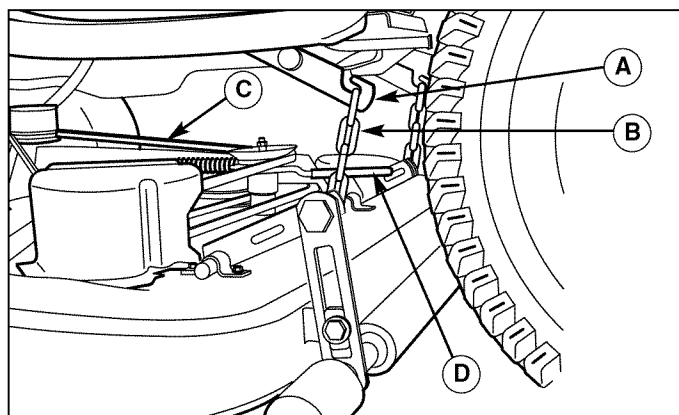

Figure 14. Mower Lift
3. Use the idler arm (D, Figure 14) to release tension on the PTO belt, and remove belt from the PTO pulley.
4. Pull down on the lift hooks (A, Figure 14) and unhook the lift chains (B).
4. See Figure 14. Connect the mower lift chains (B) to the tractor lift hooks (A).
5. See Figure 14. From left side of tractor, use the idler arm (D) to relieve belt tension. Install belt (C) onto the PTO pulley.